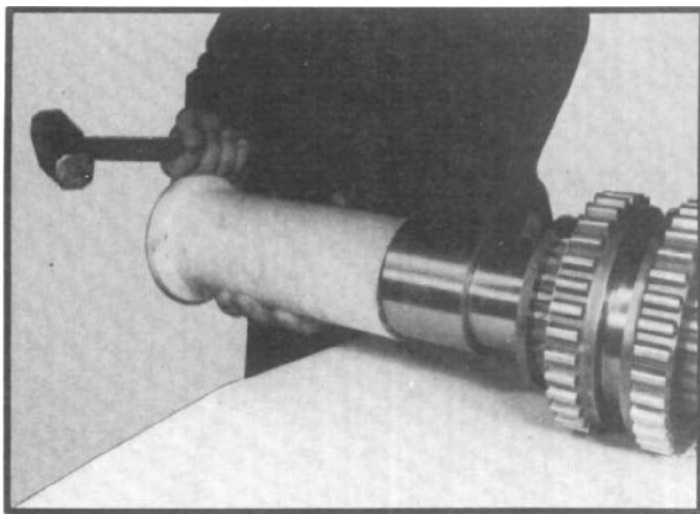

Fig. 97
1.3 Tap the needle bearing inner races over each end of shaft with a suitable driver. The wider inner race is located on the front side of the shaft and the shorter race is located on the rear side. (The needle bearing inner race must be snug against the thrust washer.) (See fig. 97.)